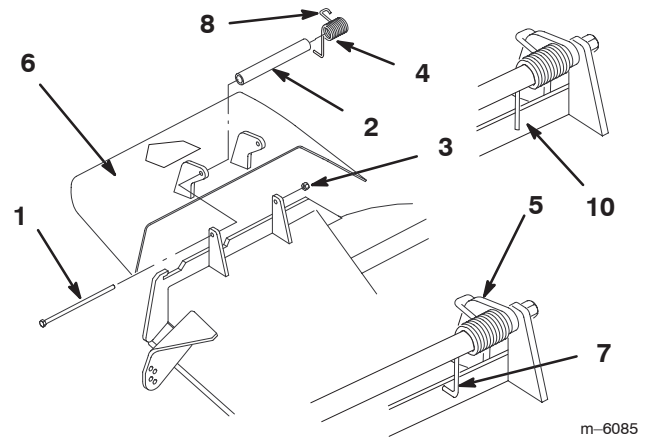

Figure 39
The grass deflector spring will have either an **L** end or a straight end (Fig. 39).
Note: Make sure the **L** or the straight end of spring is installed behind deck edge before installing the bolt as shown in figure 39.
2. Install bolt and nut. Place **J** hook end of spring around grass deflector (Fig. 39).